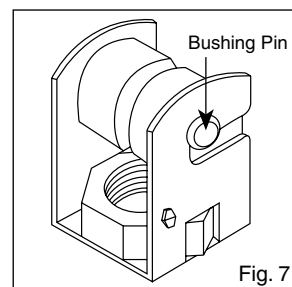

Fig. 7
- D.** Lift the fan by the motor housing, hook the hanger bracket onto the pin in the rubber bushing. **MAKE SURE BOTH ENDS OF THE PIN ARE OUTSIDE THE HANGER BRACKET.** See Figure 7. **FAILURE TO PERFORM THESE STEPS IN CORRECT ORDER MAY RESULT IN FAN FALLING.**